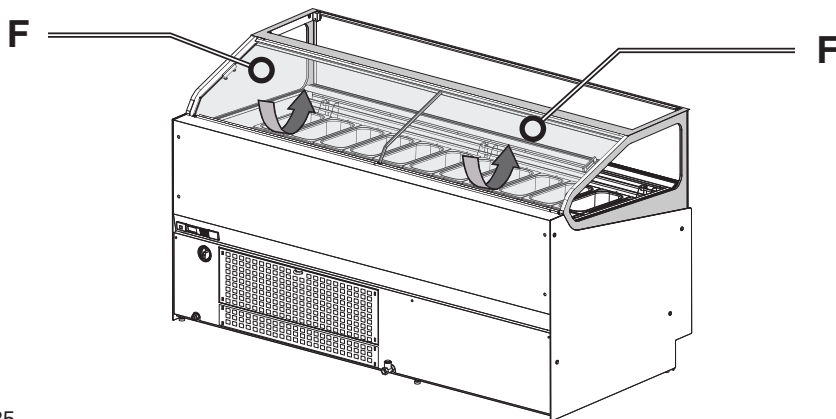

Fig.25
- Introduce the sliding panels (Fig.25 Pos. F) if envisioned. The bottom sliding door should be placed in the left, the upper on the right.